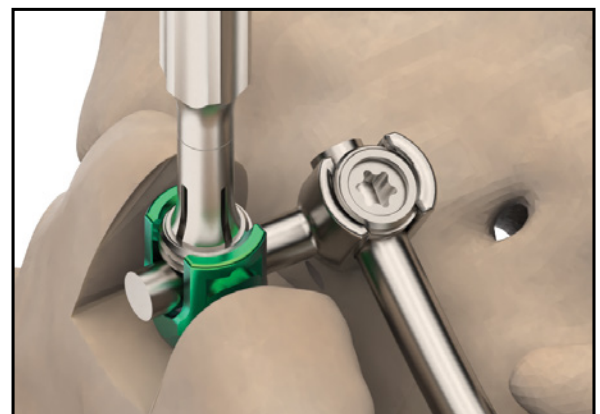

Figure 3.3
3. The Set Screw is then provisionally tightened using the Dual End Set Screw or Tactile Inserter. The final tightening sequence should be completed using the Inertia® Connexx™ Open Degen Surgical Technique (Figure 3.3).